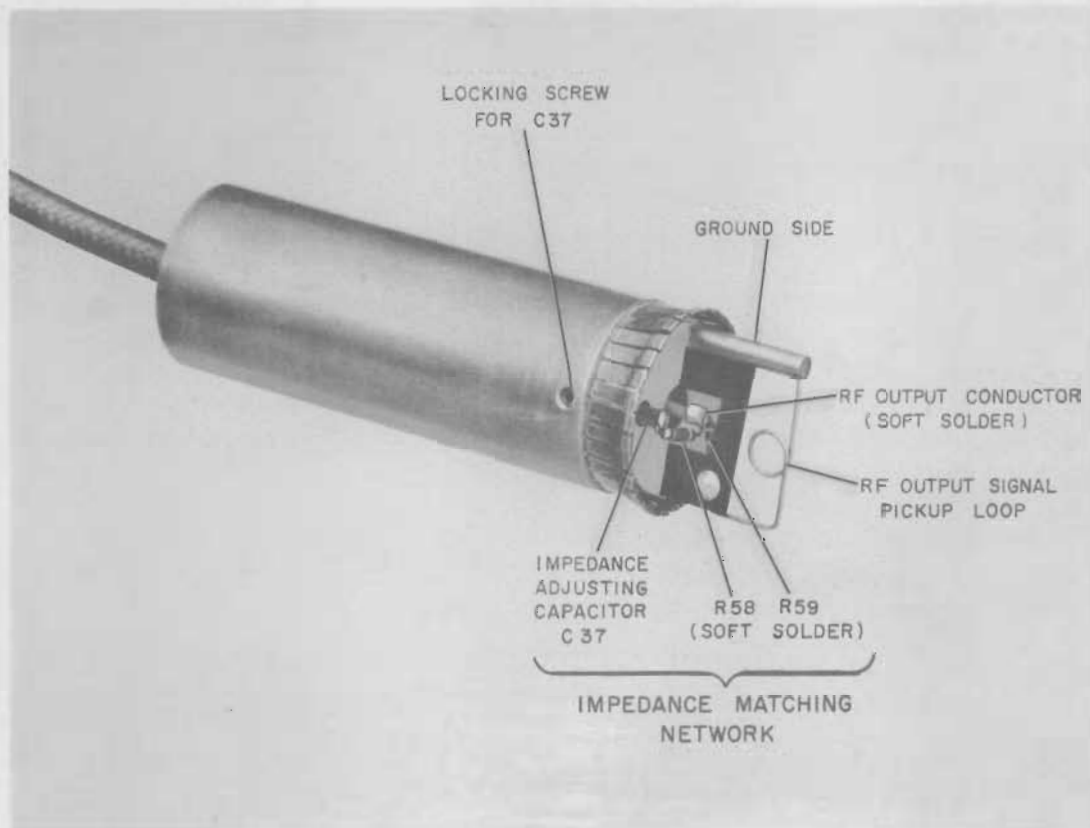

Fig. 11. R-F Output Attenuator Probe, Showing Pickup Loop and Impedance Matching Network
- e. If the damage to the attenuator probe is limited to a burned out resistor and if a replacement resistor is available, the attenuator may be repaired by carefully unsoldering the old resistor, using a low temperature soldering iron, and replacing the resistor. Soldering must be done quickly and neatly with low temperature solder. Care must be taken to duplicate the original workmanship as closely as possible by positioning the new part exactly as the old one was and by applying as little heat in the soldering process as is possible. Capacitor C37 need not be adjusted unless it too has been damaged. This capacitor consists of a metal pin with a thin plastic coating within a sleeve. The sleeve is retained by a #4 Allen screw in the side of the probe body. If the coating on the pin is pierced, the pin must be replaced. Again it is important to retain the original positioning. Loosening the set screw shown in Figure 11 allows for adjustment or replacement of the pin and sleeve.